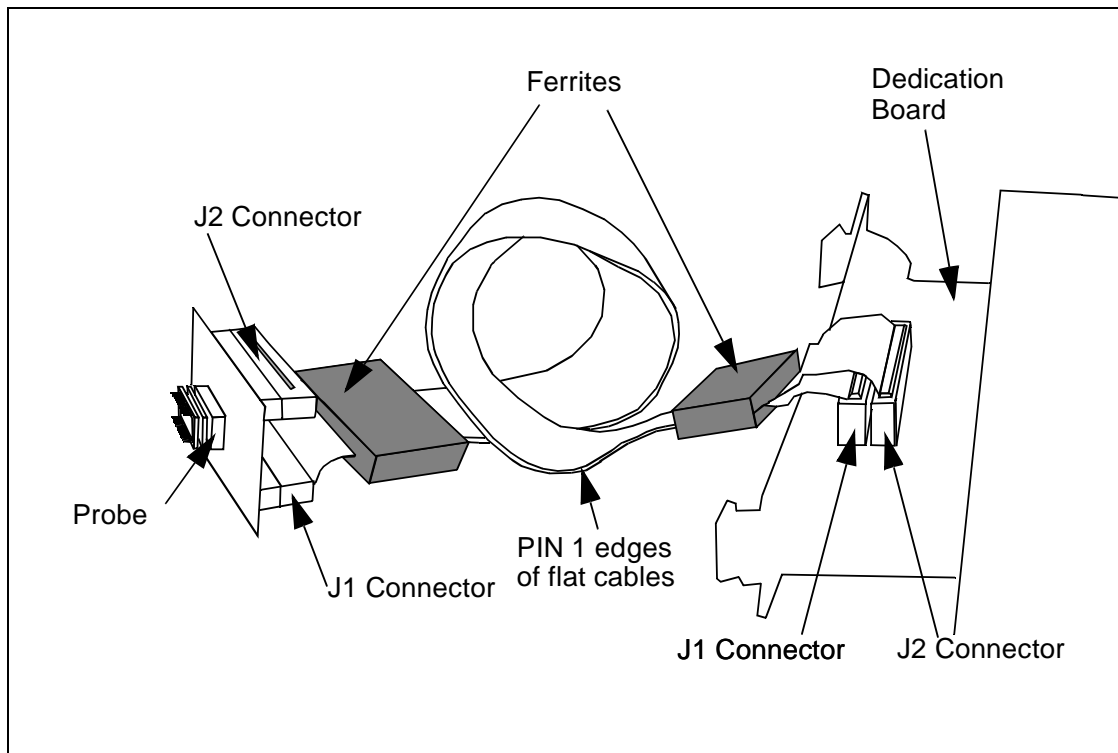

Figure 7: Installing the Flat Cables
- 2 Connect the two flat cables between the dedication board and the emulator probe as follows (refer to Figure 7):
- 4 Clip the two ferrites to the flat cables, positioning them as close as possible to each end of the flat cables (see *Figure 7*).